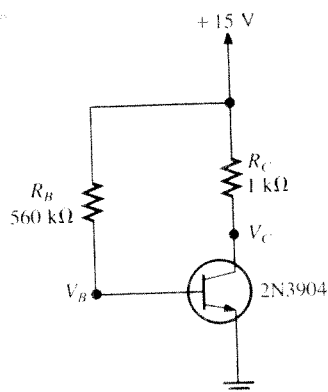
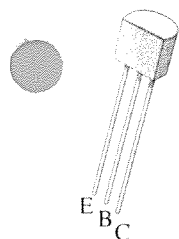

FIGURE 9-1 Schematic diagram of circuit.
FIGURE 9-2 2N3904 pin diagram.
1. Wire the circuit shown in the schematic diagram in Figure 9-1, and apply power to the breadboard. The pin diagram for the 2N3904 transistor is shown in Figure 9-2.